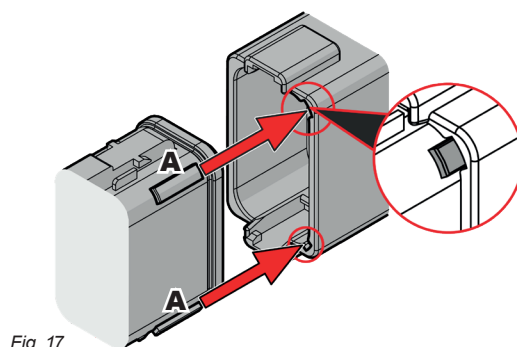

Fig. 17
**6** Connections between main cables (**3**, **4** and **5**). Observe connector position and do not force fitting: position is correct when **A** guides (Fig. 17) fit guiding connection to the complementary part.